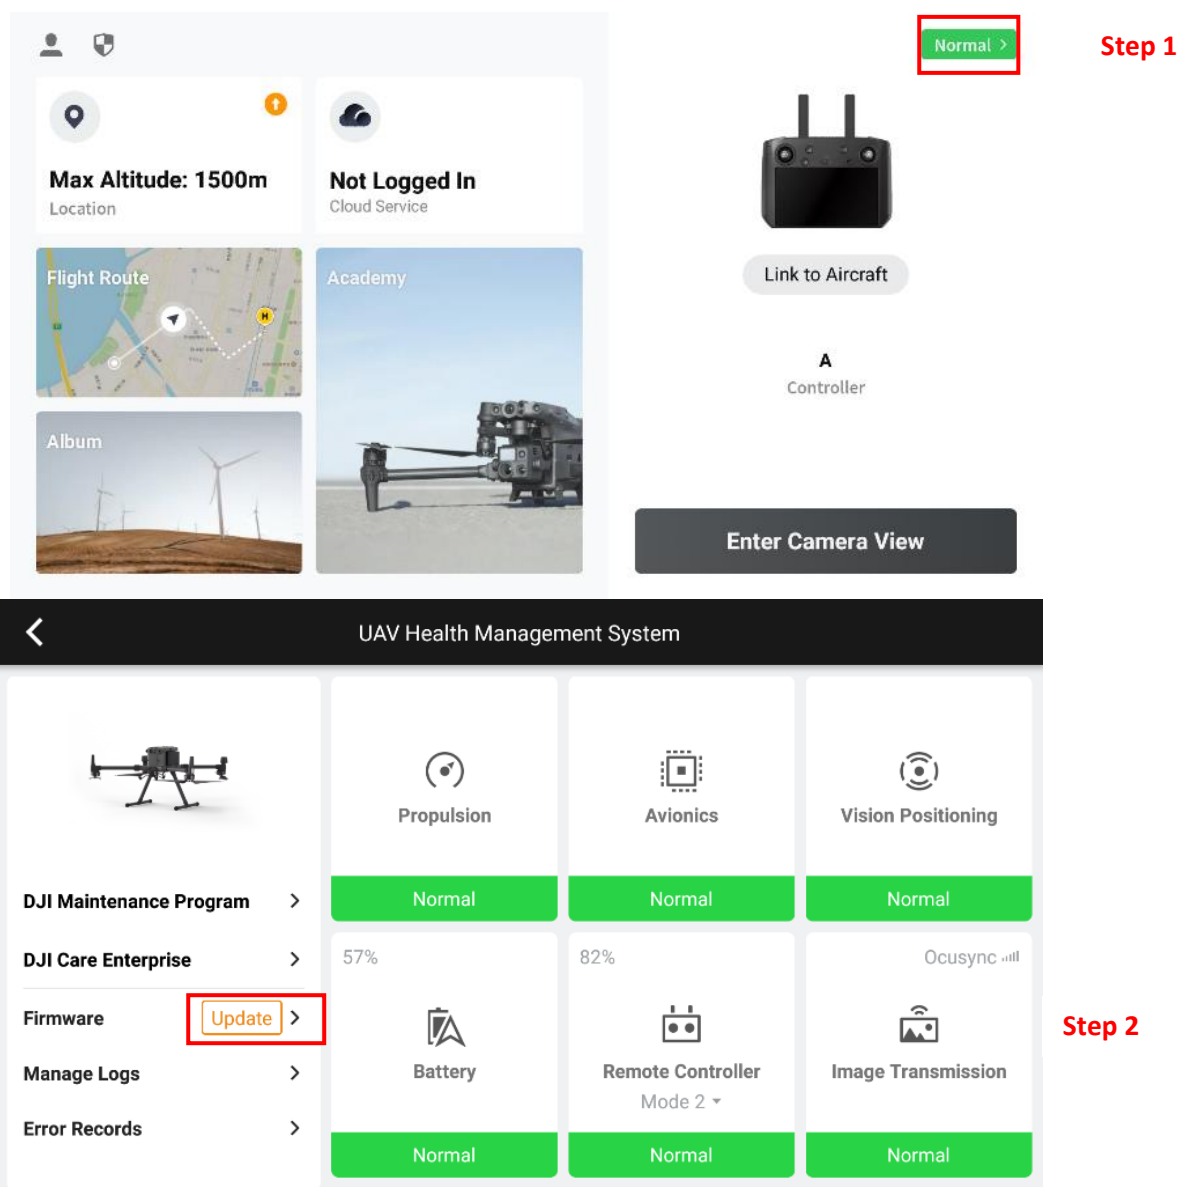

Figure 1: Access the UAV Health Management System to check for firmware updates to M300 equipment. Press 'Update' next to firmware to install firmware.
1. On the remote controller, open the DJI Pilot app. On the main screen of the app, press on the status displayed on the top-right to bring up the UAV Health Management System (HMS) (Figure 1).
2. Any available firmware updates will be indicated next to 'Firmware'. Press 'Update' (Figure 1) and follow on-screen instructions to complete installation.